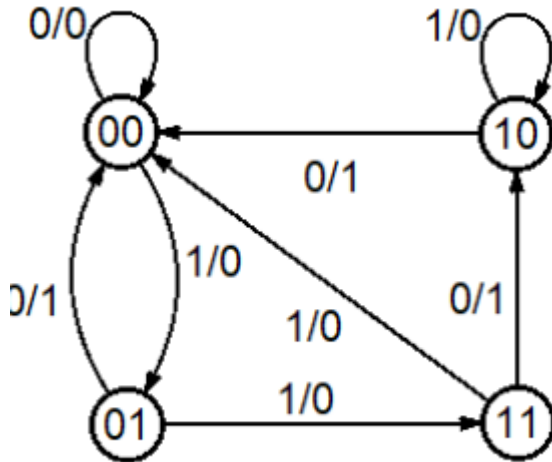

Fig P.2C
2C) Analyze the state diagram shown in Fig P.2C and obtain the excitation table using SR flip flops. (2)